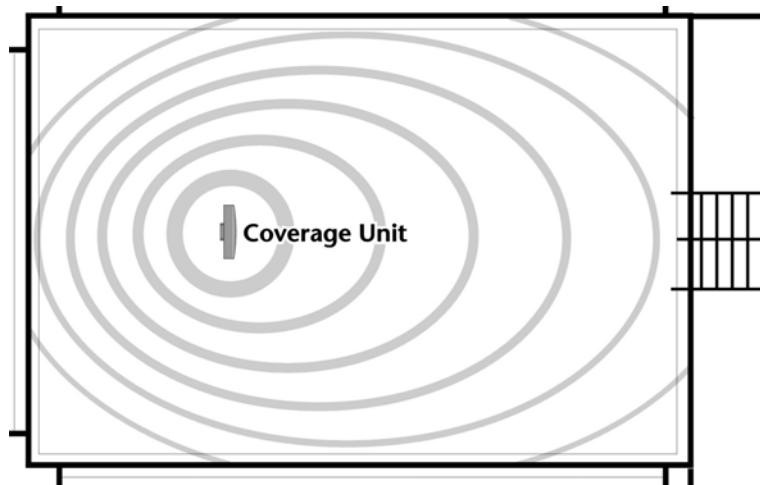

Figure 3.6: CU position and signal coverage
If mounted on a wall, the unit should be positioned in the middle of the area to be covered side-to-side, and off-centered slightly front-to-back, approximately as shown below in Figure 3.6: "CU position and signal coverage". The unit should be mounted as high on the wall as possible.
- if mounted on a wall, the Auxiliary CU should be positioned in the middle of the area to be covered side-to-side, and off-centered slightly front-to-back, approximately as shown below in Figure 3.6:“CU position and signal coverage”.